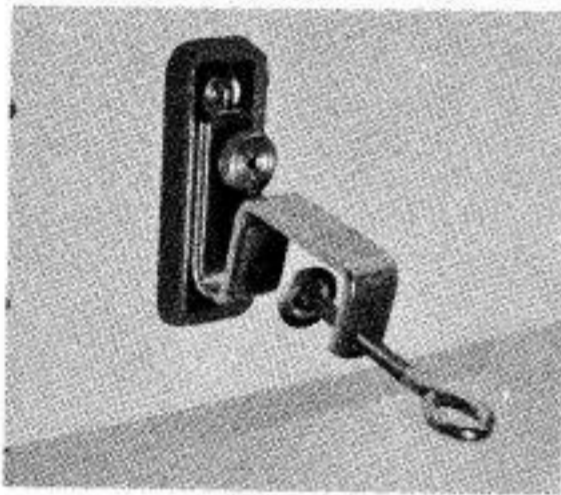

Fig. 5
1. Clamp the main machine firmly to the edge of a table. (Figs. 5 & 6)